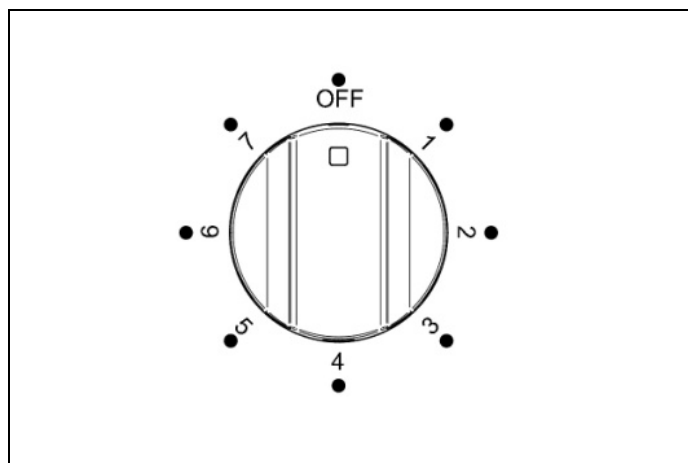
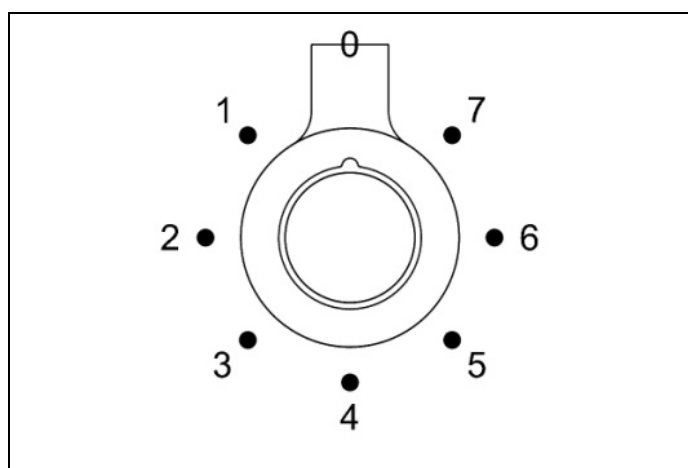

Fig. 20
Fig. 21
- 2) Turn the grill control knob (Fig. 20 and Fig. 21) clockwise to position 7 for maximum power. The red thermostat light will turn on. For best results, preheat the grill for 3-5 minutes.